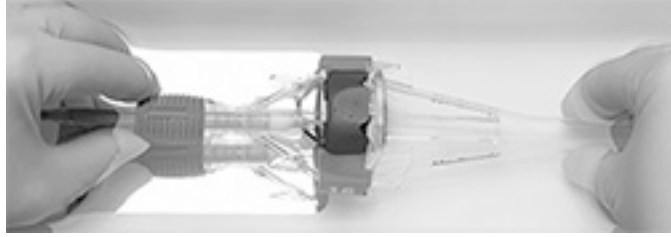

Figure 26
19. Remove the capsule guide tube together with the outflow cone and inflow cone from the catheter (Figure 26).